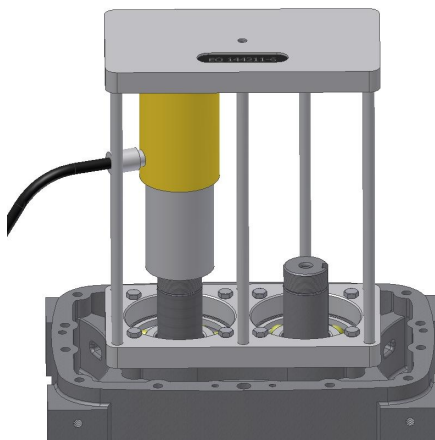

Figure 6-1 – BEARING HOUSING REMOVAL
7. Remove gear-end sump cover (5) by removing bolts (27 & 31)
8. Using nut driver tool EQ144211-2, remove locknuts (24), washers (25), oil slinger (23), and spacers (20) from gear-end of rotor shaft.
9. Inspect gears (18) for damage or excessive wear. Measure gear backlash using a dial indicator with a magnetic base. Lock idler rotor from turning by wedging a shop rag between rotor tip and air cylinder. Position dial indicator tip on drive rotor gear tooth perpendicular to gear. Rotate gear in both directions to measure total backlash. Backlash should be measured in three places (every 1/3 rotor rotation) and be 0.0028-0.0042".
11. Remove timing gear and shrink disk assembly (19) by loosening the 12 bolts. If necessary, remove the three bolts with washers to access 3/8-16 tapped holes. Use three 3/8-16 bolts as jack bolts to break assembly.
13. Remove bearing retaining plate bolts (17) and washers (16) from bearing housing.
14. Using nut driver tool EQ144211-2, remove locknuts (24), oil slinger (23), and spacers (21 & 22) from drive-end of rotor shaft.
16. Remove socket head bolts (29) that attach the gear-end bearing housing (3) to air cylinder (1).
17. Using bearing housing puller EQ144211-6, remove gear-end bearing housing. Install fixture and place hydraulic cylinder between rotor shaft and fixture as shown in FIGURE 6-1. Apply pressure back and forth between both rotor shafts evenly until bearing housing is free. Bearings (14), shims (39), and internal slingers (11) will be removed in this process.